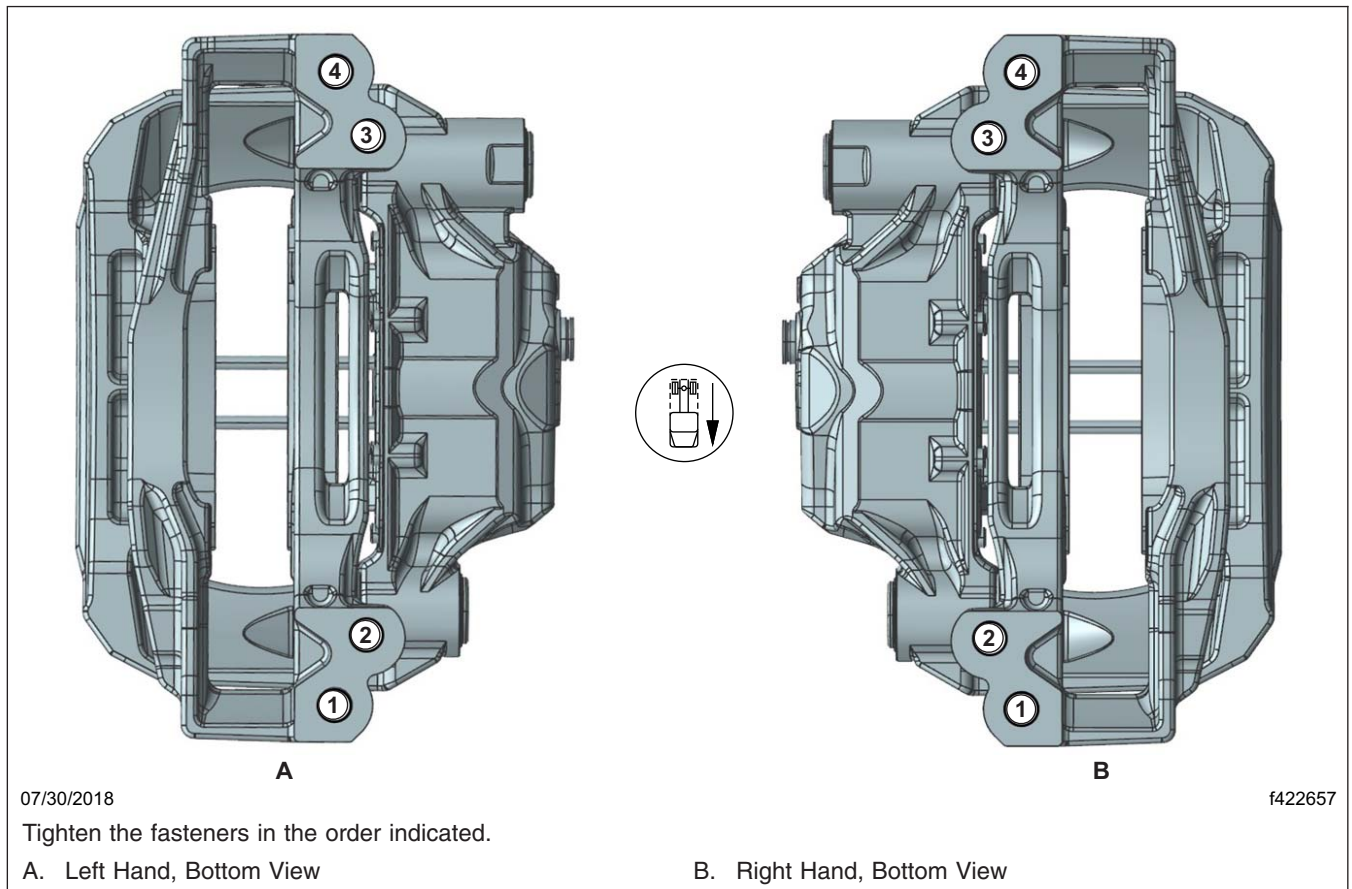

Fig. 8, Wabco Maxxus Radial Mounted Caliper Tightening Pattern
4. Set a torque wrench to 273 lbf-ft (370 N-m) and tighten the caliper mounting bolts following the tightening pattern shown in **Fig. 8**. If they do not turn, no further work is needed. If they turn, take the vehicle to an authorized Freightliner dealer to have all of the caliper bolts on that wheel end replaced.